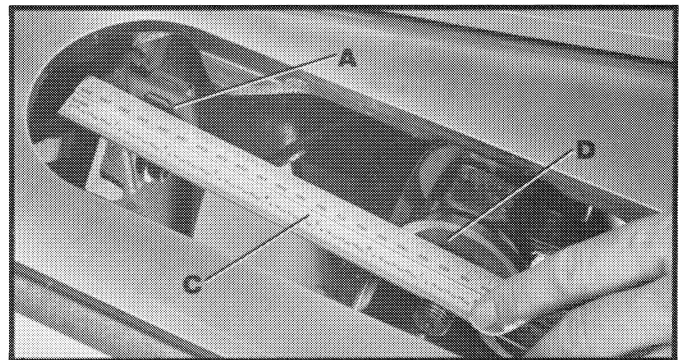

Fig. 2
4. Using a straight edge (C) Fig. 2, check to see if the splitter bracket (A) is aligned with the inside blade flange (D), as shown. Check both the top and bottom of the bracket (A) with the top and bottom of the flange (D).